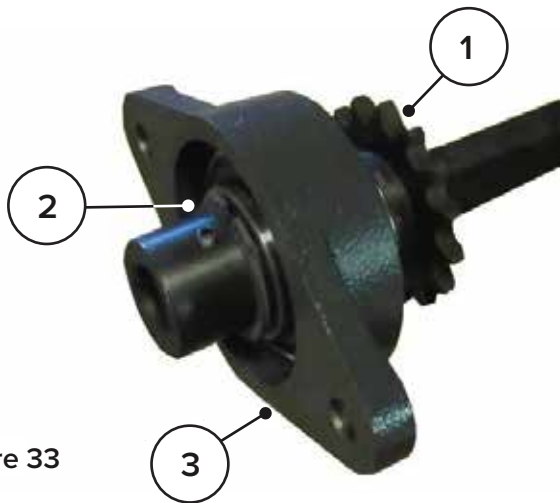

Figure 33
9. Remove the snap ring (Item 1) and remove the bearing (Item 2) from the sprocket hub / shaft assembly (Item 3). [Figure 33]